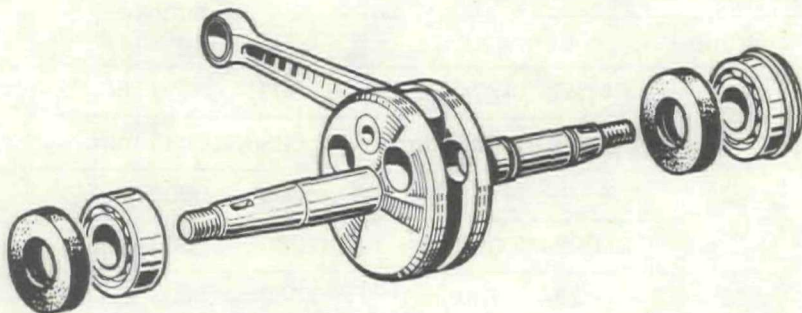

Fig. 13
**CAUTION:** Oil seals must face as shown (fig. 13).